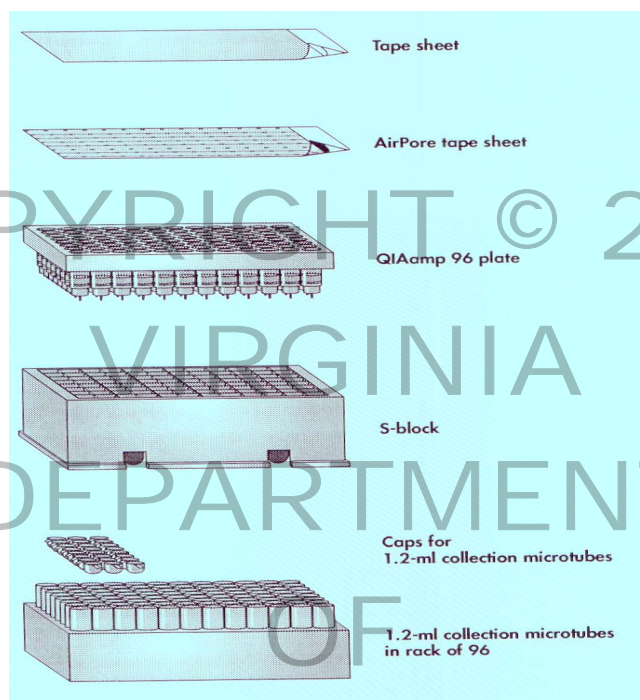

Figure 1: Accessories for extraction procedure
- 1.3.1 96-well S-block (See Figure 1)
- 1.3.2 QIAamp® 96 plate (See Figure 1)
- 1.3.3 Elution microtube rack with 96 elution microtubes (See Figure 1)
- 1.3.4 Caps (strips of 8) for collection microtubes (See Figure 1)
- 1.3.5 Adhesive tape (See Figure 1)
- 1.3.6 Air-Pore Tape™ (See Figure 1)